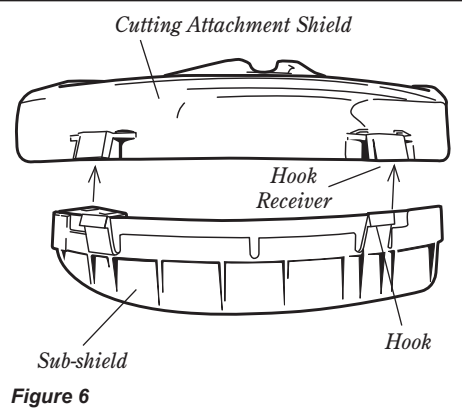

Figure 6
1. Attach the shield extension to the cutting attachment shield. See figure 6.